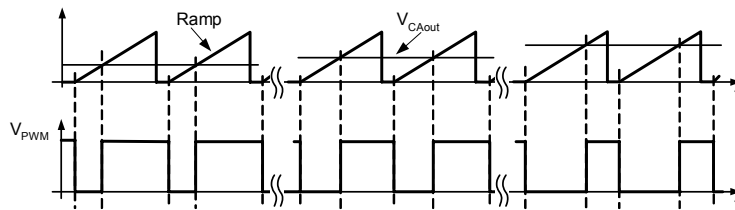

Fig. 8. Duty cycle at different input currents. The slope is constant.
That is, the duty cycle is the result of a comparison of the ramp signal with a signal that is proportional to the average input current. In this way the duty cycle ( $D_{off}$ ) is proportional to the average input current as required by the control law (2). Fig. 8 shows the duty cycle for different input currents. It is assumed that the input line voltage and the load are unchanged (constant slope).
As can be seen from Fig. 8 the higher the input current, the later the ramp signal meets the threshold and the higher the duty cycle ( $D_{off}$ ) is.